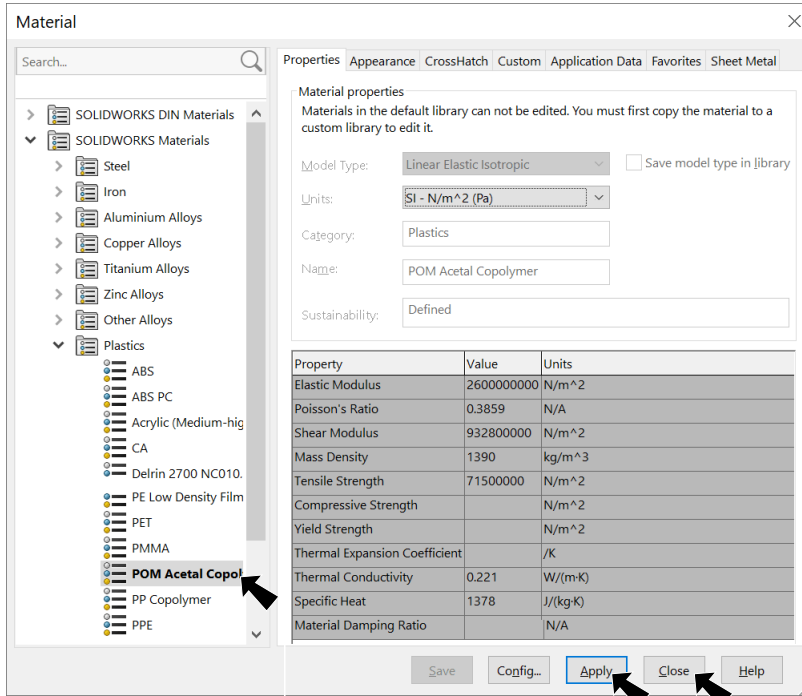

Fig. 15
Step 2. Expand Plastics in the material tree and select POM Acetal Copolymer, Fig. 15. Click Apply and Close.